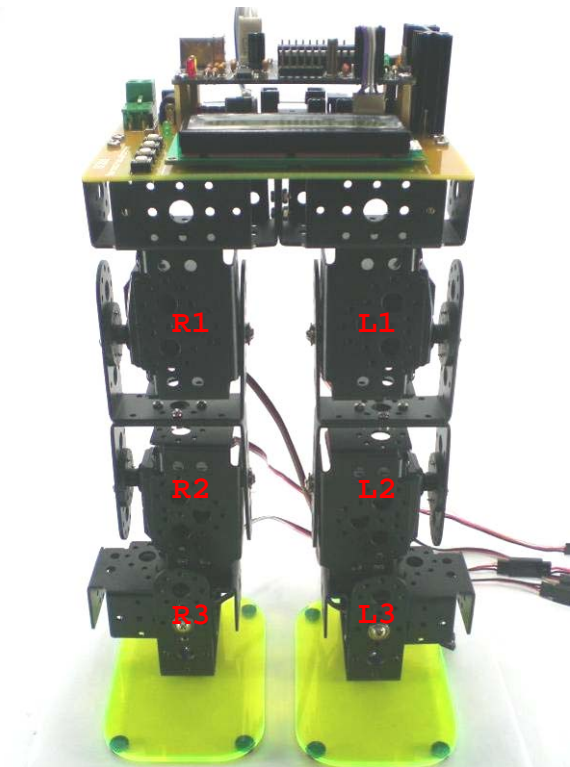
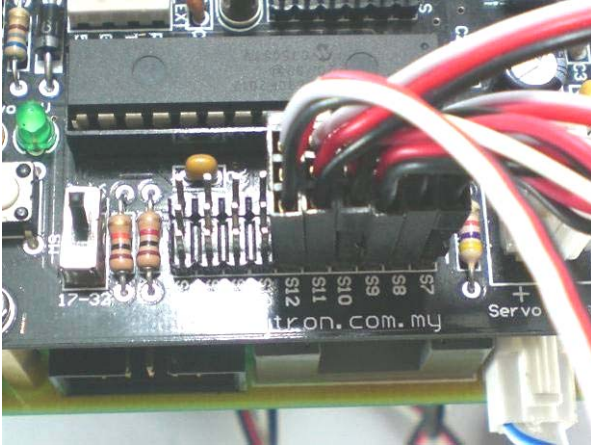

Figure 87
Figure 89
29. Mount the completed circuit onto the biped with C screw sets as shown in figure 87 until 88.
30. Connect the servo motors to the SC16A servo controller according to their respective channel. (L1 to channel S10, L2 to channel S11, L3 to channel S12, R1 to channel S7, R2 to channel S8, R3 to channel S9, refer to figure 15, figure 87 and figure 89). For L2, L3, R2 and R3, extension cables are needed to connect the motors to SC16A.